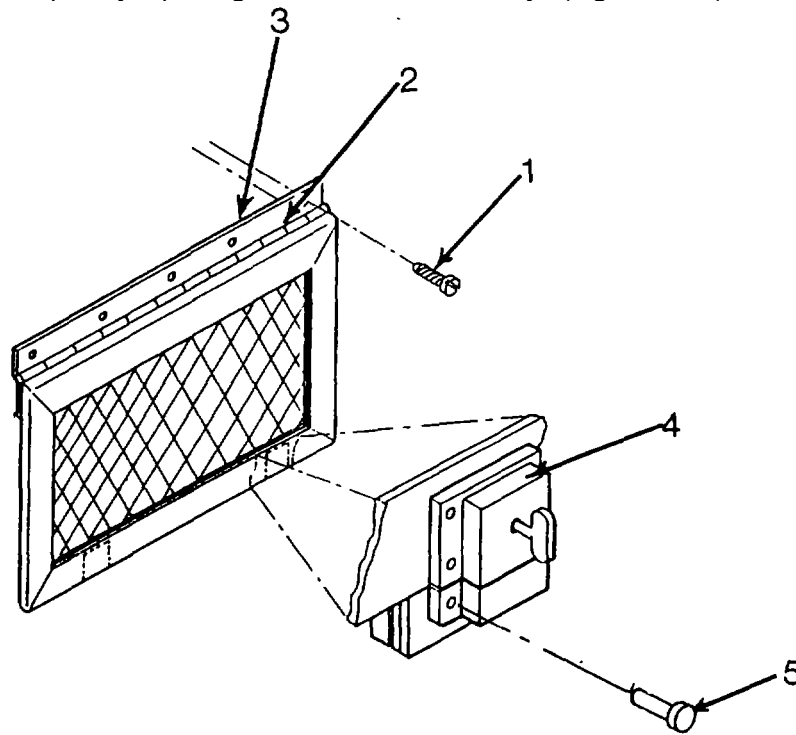

Figure 4-13. Front Wall Vent Assembly
d. Repair by replacing front wall vent assembly. (Figure 4-13.)
(1) Remove self-tapping screws (1) along top of vent assembly hinge (2) and remove front wall vent assembly.
(2) Align replacement vent assembly hinge (2) along hinge line and secure in place with five self-tapping screws (1).
e. Repair by replacing front wall vent assembly door latch. (Figure 4-13.)
(1) Using an electric drill, drill out rivets (5) in latch and remove latch (4).
(2) Install replacement latch (4) using blind riveter and pop rivets.